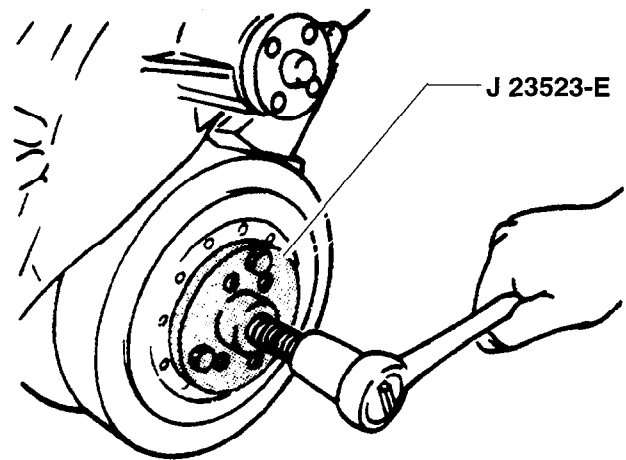

Figure 10 - Removing the Torsional Damper
2. Torsional damper using J 23523-E (figure 10).